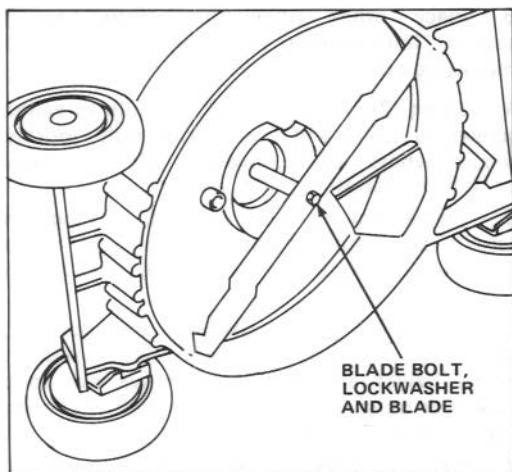

Figure 17
3. Tip mower onto its right side (Fig. 17). Avoid rotating blade. Starting problems may result.
5. REMOVING BLADE — Grasp end of blade using a rag or thickly padded glove. Remove blade bolt, lock washer and blade (Fig. 17).